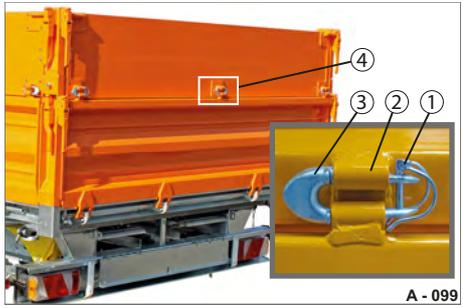

Fig. 104 Platform gate attachment hinges
- ▶ Secure this with the socket pin and spring clamp (Fig. 104/1). The U-bracket is secured from falling out.